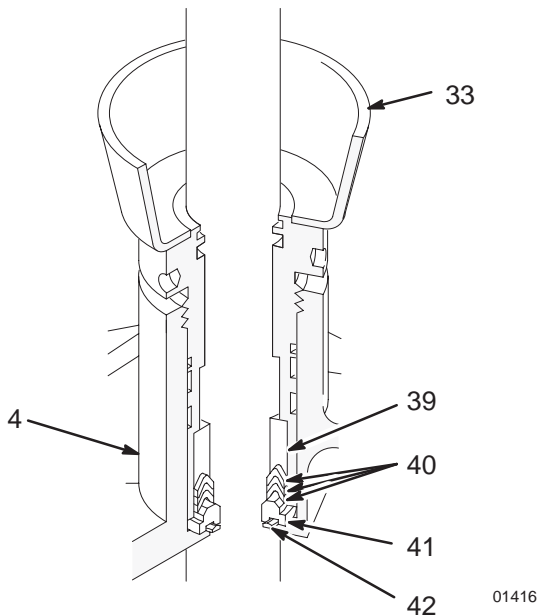

Fig. 11
1 See Fig. 11.
5. Screw out the packing nut (33). Remove the packings (40) and female gland (39) from the nut. See Fig. 11.